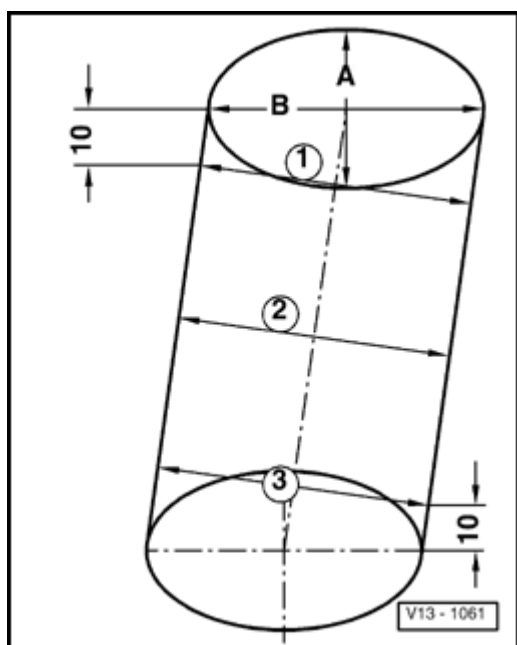

Fig. 4 Checking cylinder bores
- ◆ Checking cylinder bore \Rightarrow Fig. 4